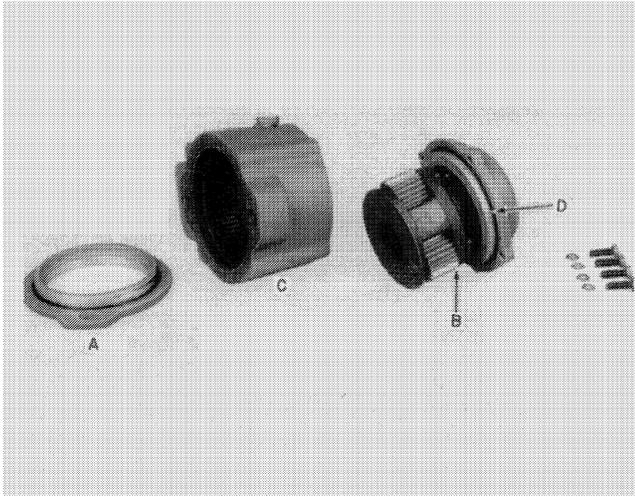

FIGURE 1-15
1. Remove adapter plate, A, Figure 1-15, from the housing, C. Remove the O ring from the adapter plate.
2. Remove the four cap screws and remove the front plate and planetary gear assembly, B, Figure 1-15, from the housing. Remove the O ring from the front plate.
2. Examine the gear teeth and internal teeth in housing, C, Figure 1-15. The teeth should show no signs of excessive wear. Worn parts must be replaced.
5. Install a new O ring on the face of the front plate at D, Figure 1-15, and install the assembly into the housing. Secure with four cap screws and washers and tighten to 15 ft. lbs.-18 ft. lbs. (20 N·m-24 N·m) torque.
6. Install a new O ring on the face of adapter plate, A, Figure 1-15, and install on the housing assembly. Secure the plate with two cap screws and tighten to 55 ft. lbs.-60 ft. lbs. (74 N·m-81 N·m) torque.